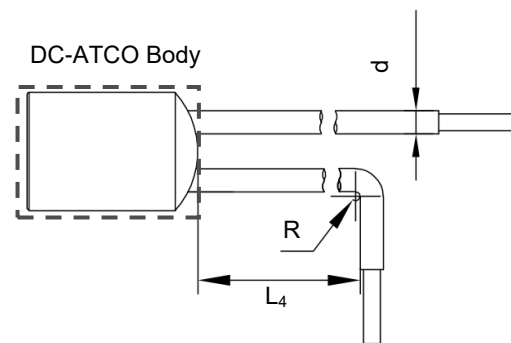

FIGURE RPK-2
2. When bending stranded conductor, please use pincher or similar tools to fix the product as shown in Fig. RPK-2, to avoid damaging the product. The distance L_4 between the bending position and DC-ATCO sealing end should refer to Table RPK-2.
5. Bending radius R : $\geq 15d$, as shown in Figure RPK-2.